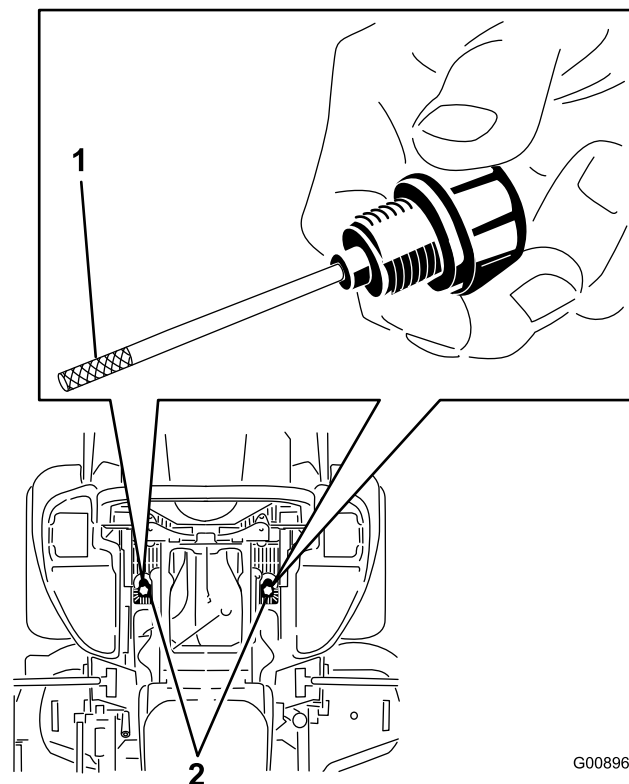

Figure 78
6. Clean the area around the dipsticks of hydraulic system reservoirs (Figure 78).
7. Remove one dipstick from the hydraulic reservoir (Figure 78).
9. Remove the dipstick and look at the metal end (Figure 78). The level needs to be within knurled section. If oil level is low, slowly pour only enough oil into the hydraulic reservoir to raise the level to the knurled section.